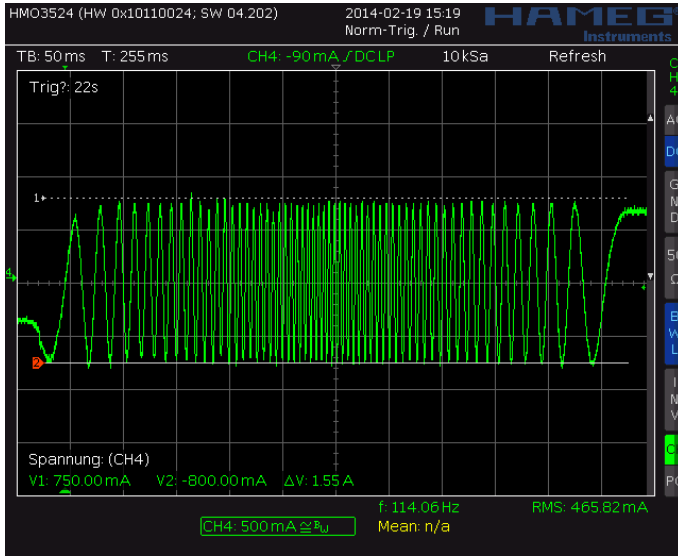
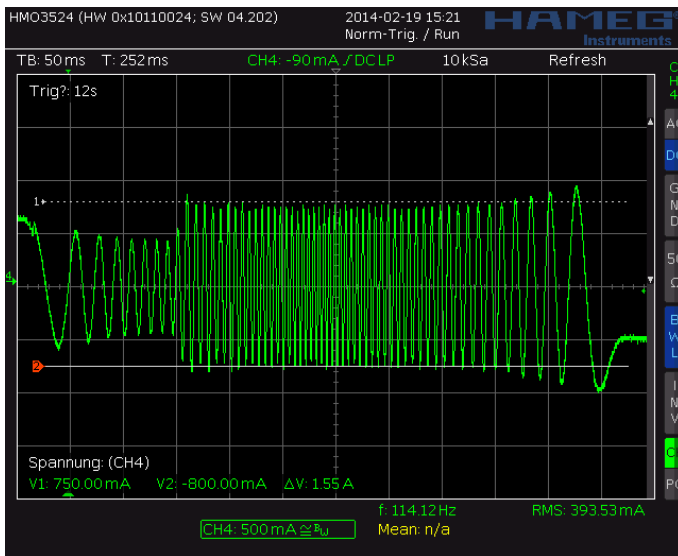
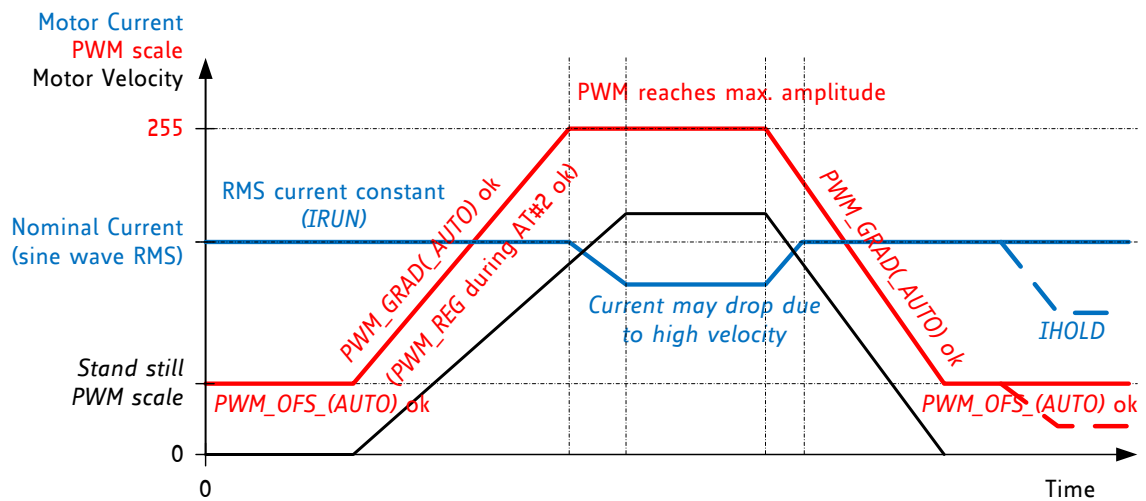

Figure 6.3 Scope shot: good setting for PWM_REG
Figure 6.4 Scope shot: too small setting for PWM_REG during AT#2
Figure 6.5 Successfully determined PWM_GRAD(AUTO) and PWM_OFS(AUTO)
In StealthChop voltage PWM mode, the autoscaling function ($pwm_autoscale = 1$, $pwm_autograd = 1$) regulates the motor current to the desired current setting. Automatic scaling is used as part of the automatic tuning process (AT), and for subsequent tracking of changes within the motor parameters. The driver measures the motor current during the chopper on time and uses a proportional regulator to regulate PWM_SCALE_AUTO in order match the motor current to the target current. PWM_REG is the proportionality coefficient for this regulator. Basically, the proportionality coefficient should be as small as possible to get a stable and soft regulation behavior, but it must be large enough to allow the driver to quickly react to changes caused by variation of the motor target current (e.g., change of VREF). During initial tuning step AT#2, PWM_REG also compensates for the change of motor velocity. Therefore, a high acceleration during AT#2 will require a higher setting of PWM_REG . With careful selection of homing velocity and acceleration, a minimum setting of the regulation gradient often is sufficient ($PWM_REG=1$). PWM_REG setting should be optimized for the fastest required acceleration and deceleration ramp (compare Figure 6.3 and Figure 6.4). The quality of the setting PWM_REG in phase AT#2 and the finished automatic tuning procedure (or non-automatic settings for PWM_OFS and PWM_GRAD) can be examined when monitoring motor current during an acceleration phase Figure 6.5.